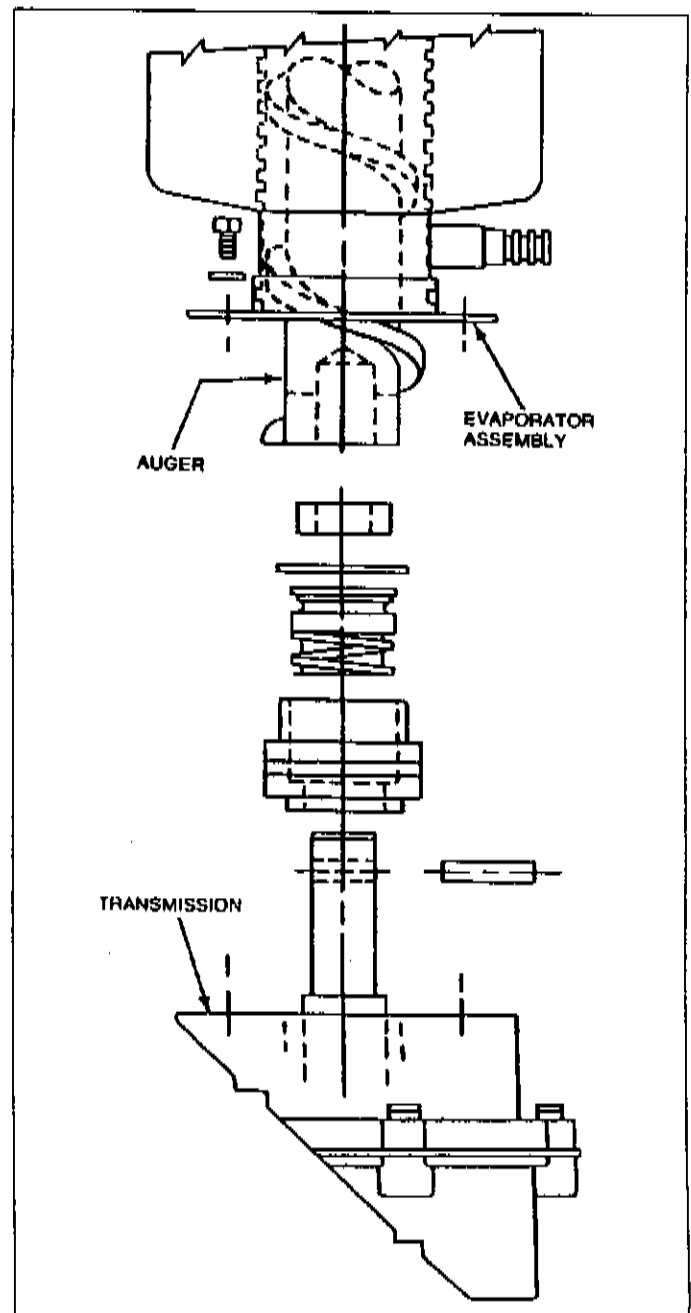

FIGURE 5 - 6 SHAFT SEAL
3. Remove the four (4) evaporator mounting bolts and washers and lift the evaporator assembly up to reveal seal area.
4. Remove drive pin from transmission shaft and slide off the lower spacer and washer. Pull off the shaft seal mount along with seal. See figure 5 - 6.